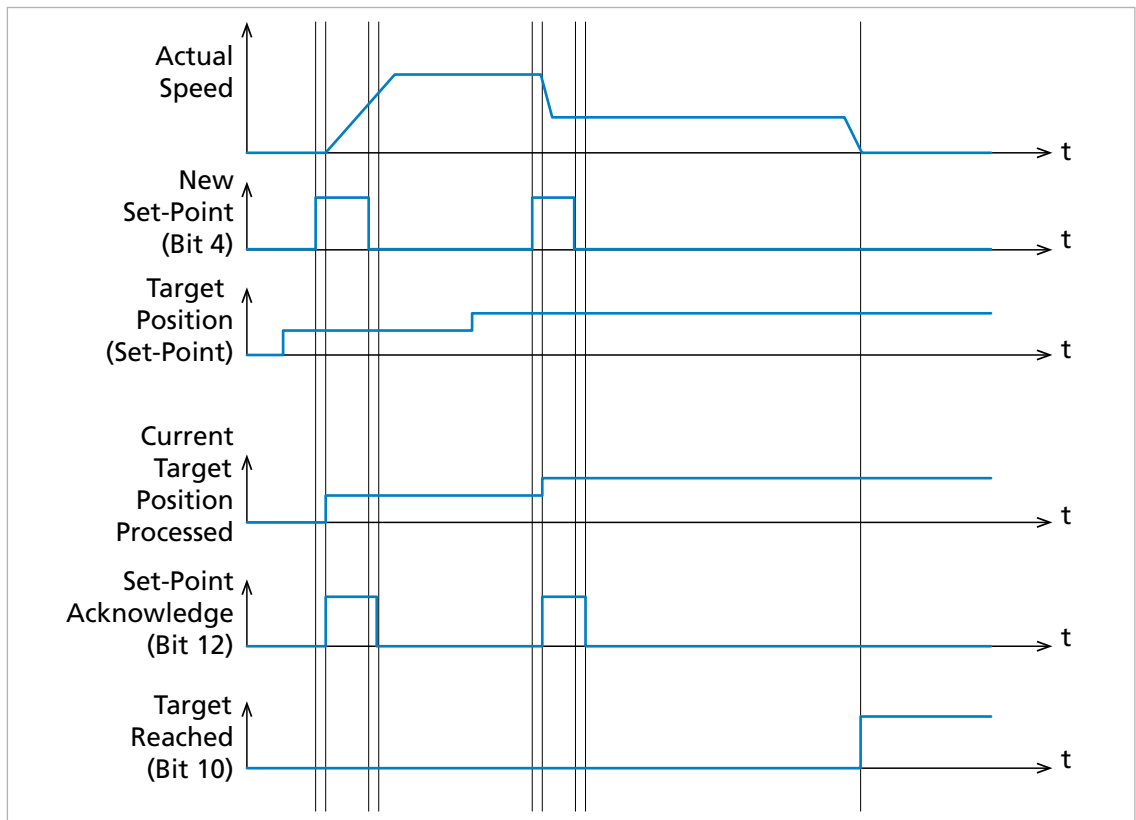

Fig. 29: Handshaking procedure for a succession of set-points, each set-point is loaded immediately
- i** In the example shown (see Fig. 29), new instructions for the acceleration or the speed were communicated with the new set-point; this is evidenced by the change of the velocity profile (Actual Speed).